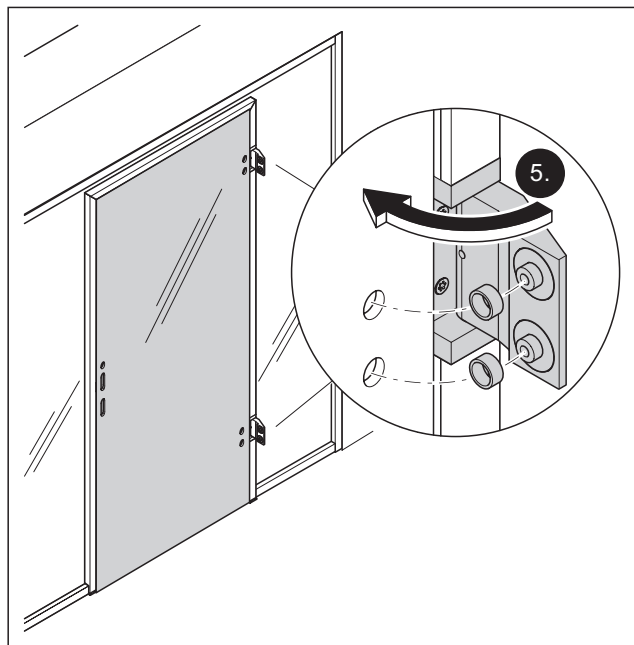

Fig. 52 Turn the door hinges on the hinge side to the drill holes
5. Turn the door hinges to the pre-drilled holes in the glass door (Fig. 52).